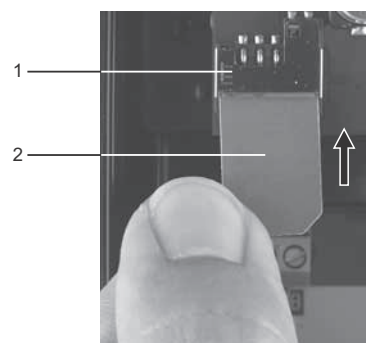

Fig. 11 Inserting the SIM card
3. Insert the SIM card into CIM 260. See fig. 11.
The connectors on the SIM card must face inwards towards CIM 260. See fig. 11.